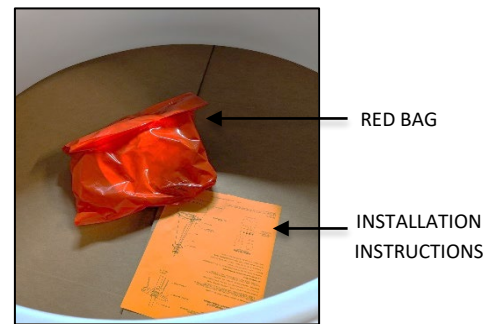

FIG.3 - RED BAG AND INSTALLATION INSTRUCTIONS
2. INSTALLATION INSTRUCTIONS (shown in FIG. 3) - Please completely read the install instructions before starting installation.
3. RED BAG (shown in FIG. 3) contains below following items